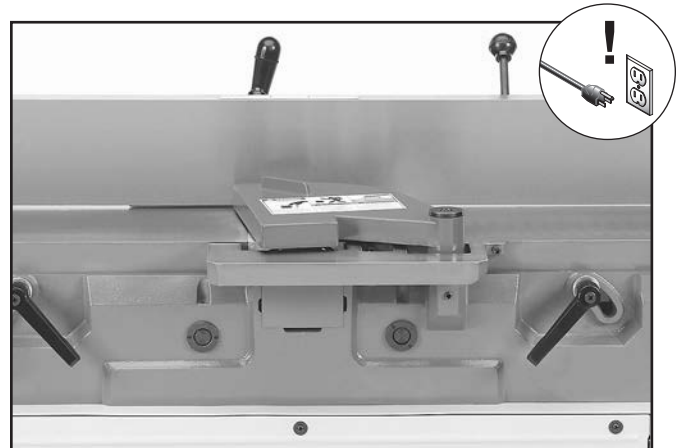

Figure 1. Cutterhead guard resting against fence.
3. Pull cutterhead guard back and let it go. It should spring back over cutterhead and rest against fence (see **Figure 1**).